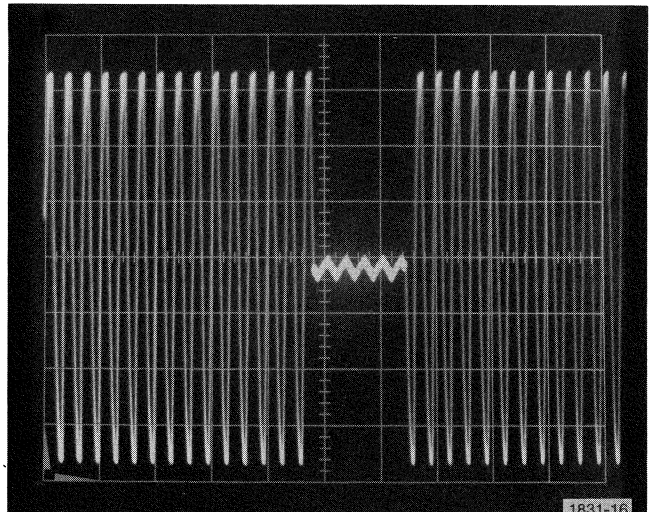

Fig. 4-5. Heater control waveform.
- (2) CHECK for pulsed heater control waveform as in Fig. 4-5.
- (3) Install cassette assembly and paper. Press COPY. The first copy will be black. Discard it. While running copies, adjust R71 clockwise until paper just begins to darken, then turn R71 counterclockwise slightly. The final adjustment should be such that the temperature is just below the point where the paper begins to darken. An easy way to check the paper darkness is to fold over a corner and compare front copy side to back.